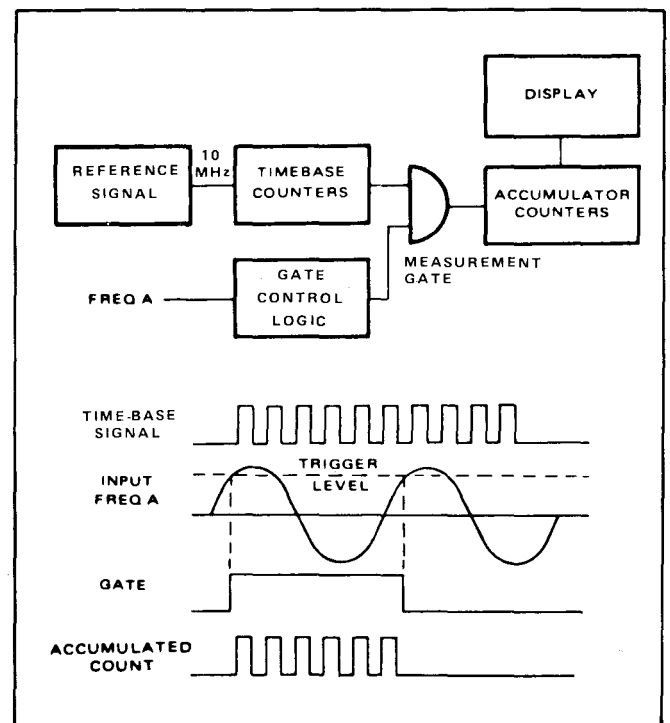

Figure 1.3 - Period
1.3.3.1 Period is the inverse of frequency. Therefore, channel A signal is applied to the gate control logic and the reference signal is connected to the time base counters (figure 1.3).